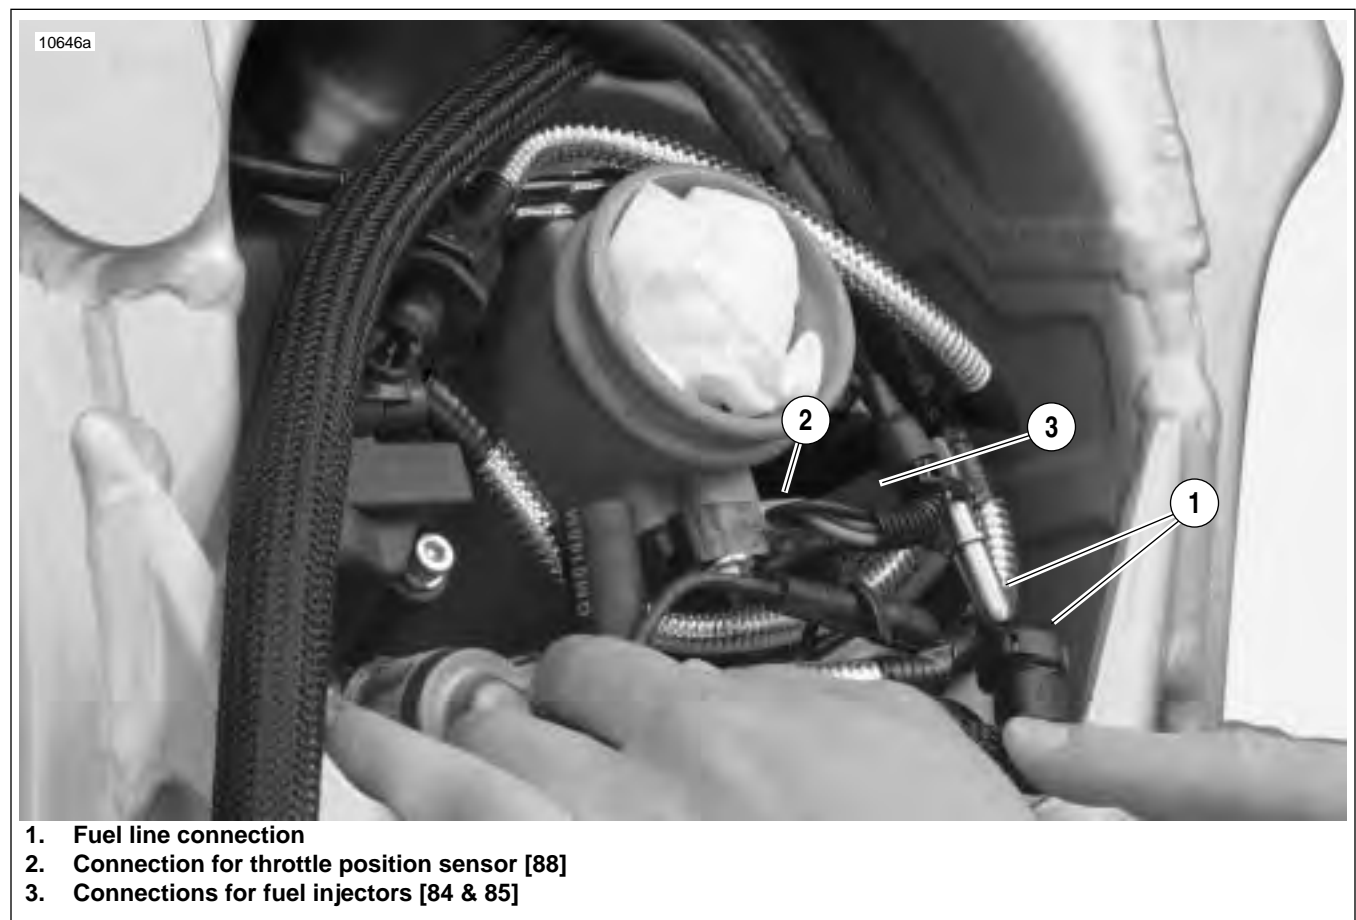

Figure 3-14. Fuel Line and DDFI Electrical Connections (Typical)
6. See Figure 3-14. Disconnect fuel line.
7. Disconnect throttle position sensor (2) [88].
8. Disconnect fuel injector leads (3) [84 & 85].